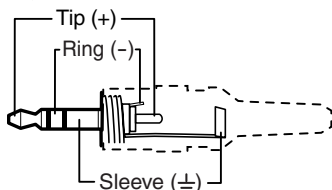

Figure 17. Audio Input Connector Plug
- ❷ **Computer video input (HSA 200 models only)** — Plug the VGA-UXGA output from a computer into this 15-pin HD female connector.
- ❸ **Audio input connector (HSA 200 models only)** — Plug a 3.5 mm stereo plug into this jack for unbalanced audio input. Figure 17 shows how to wire the male plug.